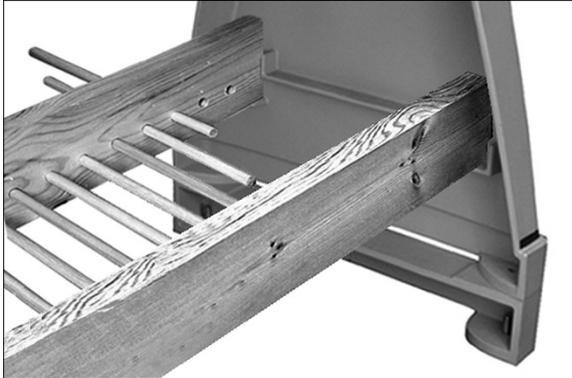

Figure 6-10
Shelf Style 3: (Figure 6-10)
6. Insert the dowel rods through the holes in the rear 2x6, as shown in Figure 6-10.